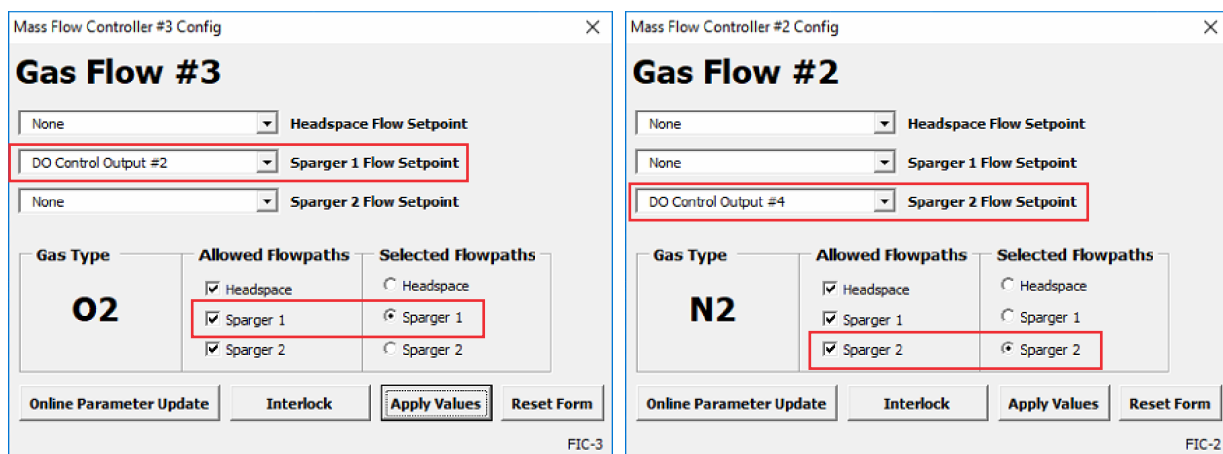

Figure 5.11. Selecting DO Control Outputs from the Sparger Flow Setpoint dropdown lists.
2. Set the appropriate sparger to **DO Control Output #2** for oxygen and **DO Control Output #4** for nitrogen (Figure 5.11) and verify that the appropriate sparger is selected.